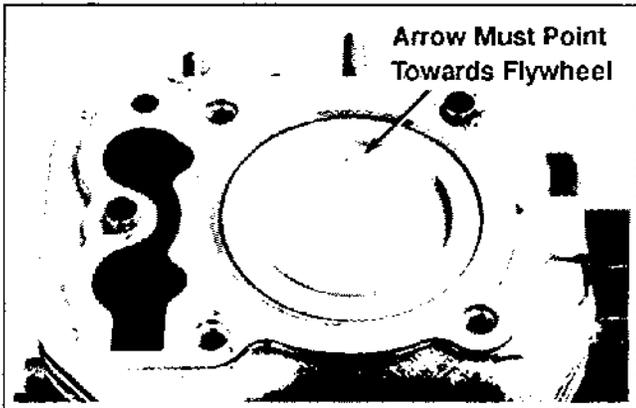

Figure 11-8. Piston Installation Identifier.
3. Orient the "Fly" mark on piston towards the fly-wheel side of crankcase. See Figure 11-8. Gently push the piston/connecting rod into bore. **Do not pound on the piston.**